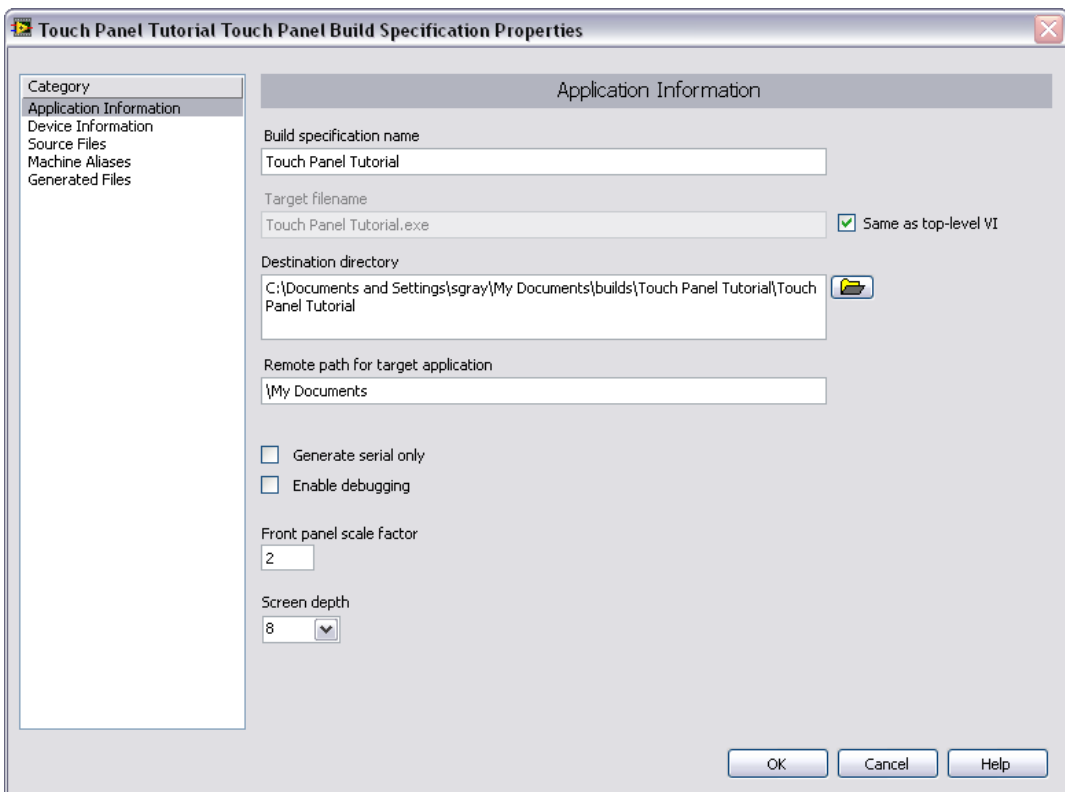

Figure 5. Defining the Touch Panel Application Information
1. Define the settings for the Touch Panel application as shown in Figure 5.